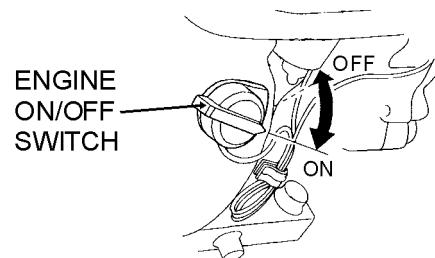

Figure 25. Engine On/Off Switch (engine)
3. Turn the **engine ON/OFF switch** (Figure 25) to the "OFF" position.